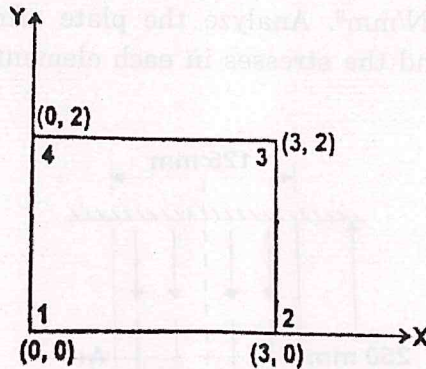

Figure 13 (a)
13. (a) For a four noded rectangular element shown in Figure 13 (a), determine the temperature at the point (2, 1). The nodal temperatures are  $T_1 = 42^\circ\text{C}$ ,  $T_2 = 54^\circ\text{C}$ ,  $T_3 = 56^\circ\text{C}$  and  $T_4 = 46^\circ\text{C}$ .